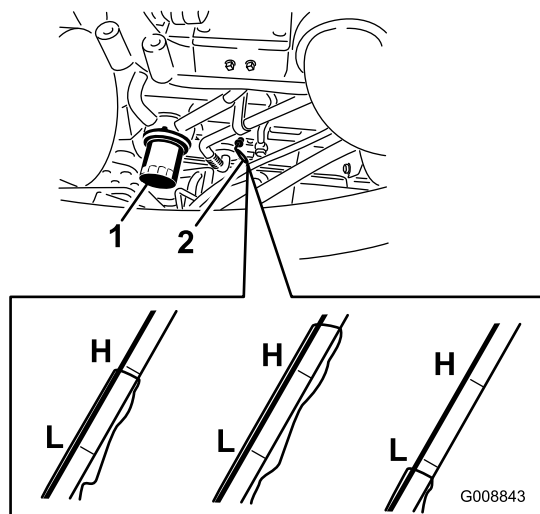

Figure 59
2. Remove the dipstick (Figure 59), wipe it clean, install the dipstick into the tube, and pull it out again. The oil level should be up to the Full mark.
2. Remove the oil filter (Figure 59). Apply a light coat of clean oil to the new filter seal before screwing it on. **Do not overtighten.**